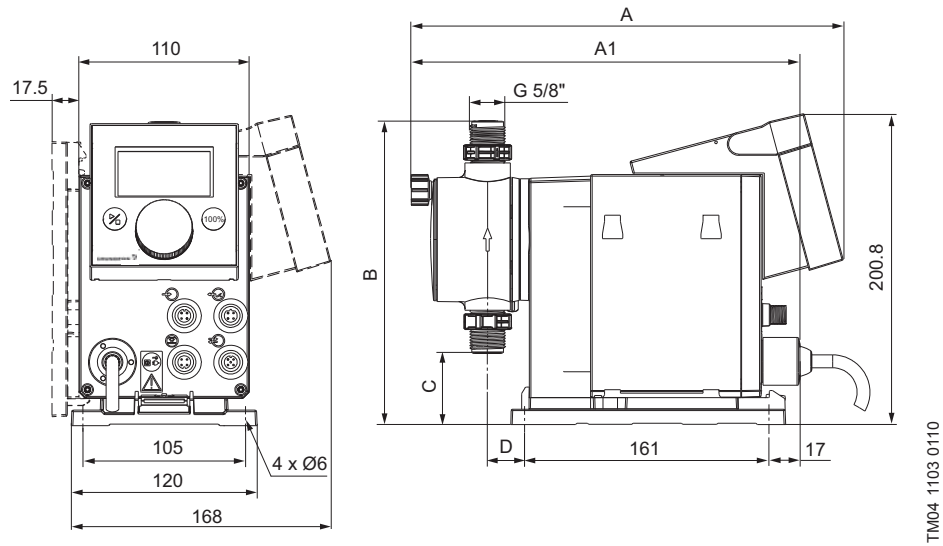

Fig. 4 Dimensional sketch
- The mounting plate can be used as a drill template, please see fig. 4 for drill hole distances.